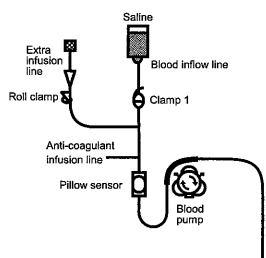

Fig.1
- 3) Insert the pump tube into the pump and the pillow sensor into the pillow sensor unit (Fig.1).